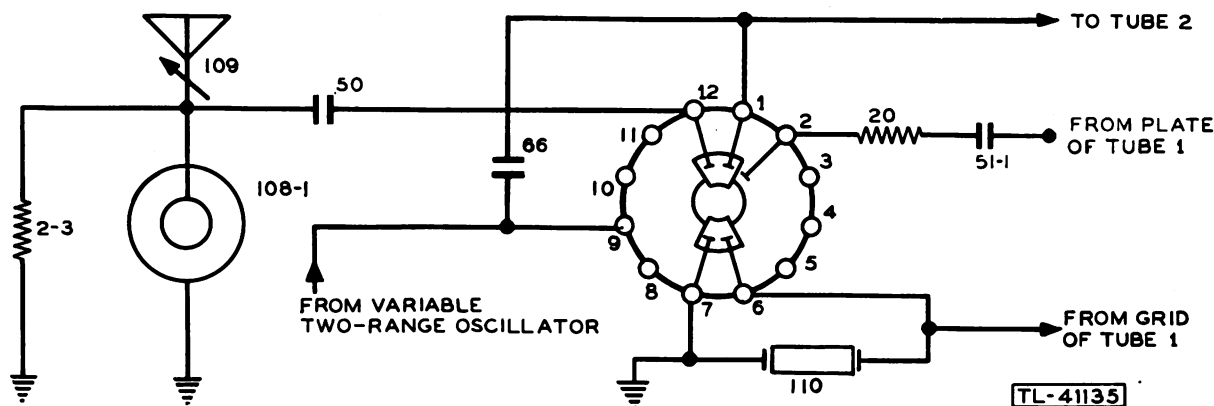
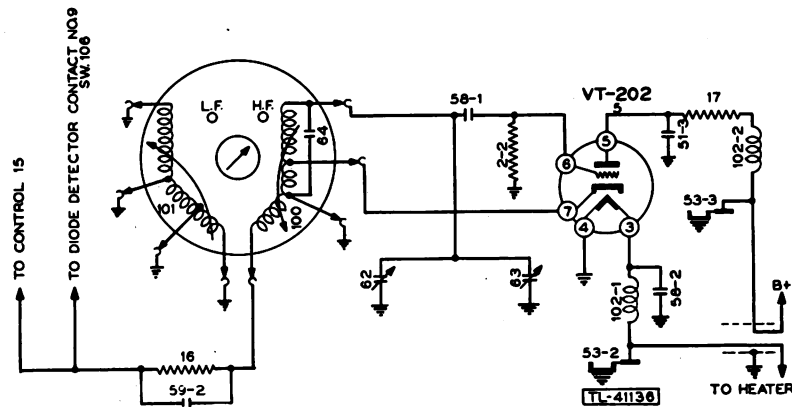
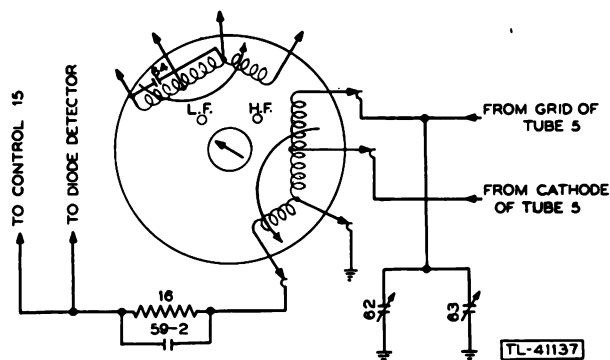

Figure 5. Switch 106 (TEST position).
Figure 6. Variable two-range oscillator (switch in h-f position).
Figure 7. Two-range switch (l-f position).
(3) When switch 106, marked TEST CRYSTAL, is in the CRYSTAL position, points 1 and 2 are connected, coupling the oscillator output to the detector. When the switch is turned to the TEST position, this circuit is open and points 6 and 7 are connected, shorting out CRYSTAL 110. In the CRYSTAL position, the short circuit is broken and the crystal is in the grid circuit (fig. 5). A 0.005mf capacitor (52) and 0.1mf capacitor (54-5) serve as an r-f filter together with resistor 3. Resistor 2-1 is the grid leak.
(4) The use of two parallel capacitors, 52 and 54-5, instead of a single capacitor, was occasioned by the fact that, due to the inductance present in 54-5, a paper capacitor, loading of the tank circuit developed a quasi-resonance in the middle of the h-f band. Accordingly, mica capacitor 52 was added in shunt across capacitor 54-5 to shift the resonance point.
c. **Variable Two-range Oscillator (fig. 6).** This is the test oscillator. It uses a midget triode Tube VT-202 u-h-f (5) in a modified Hartley circuit. A turret, having both a high-frequency coil (100) and a low-frequency coil (101), rotates as the switch marked RANGE is turned to either the h-f or l-f position. This places the desired coil in the circuit, removing the other coil (fig. 7). The cathode is connected to a tap on the coil and feedback between the grid and plate circuits secured by mutual inductance between the two sections of the coil. Resistor 2-2 is the grid leak, capacitor 58-1 the grid capacitor. Variable capacitor 63 is the main tuning capacitor and is controlled from the panel by the knob marked TUNING. A small variable air capacitor 62 in parallel with capacitor 63 is used as a vernier control for restoring the calibration of the main tuning capacitor by adding or subtracting as much capacity as is required; it is controlled from the panel by the knob marked CALIBRATE.